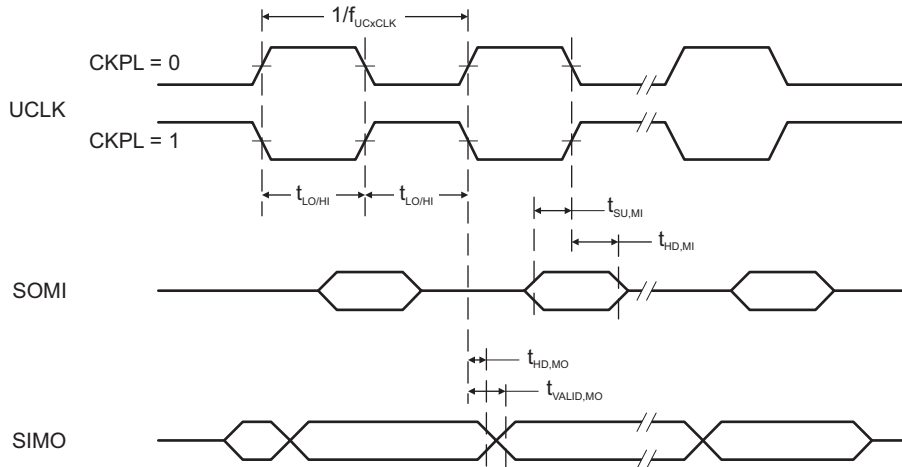
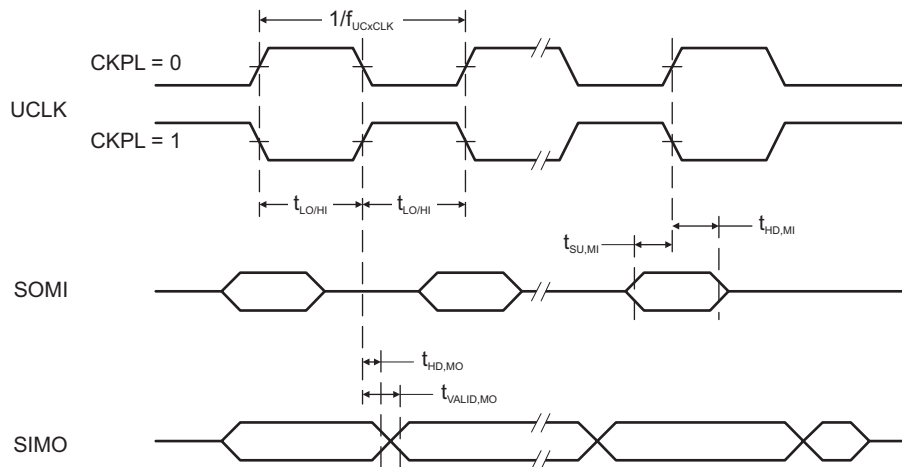

Figure 5-11. SPI Master Mode, CKPH = 0
Figure 5-12. SPI Master Mode, CKPH = 1
(see Figure 5-11 and)
(2) Specifies the time to drive the next valid data to the SIMO output after the output changing UCLK clock edge. See the timing diagrams in Figure 5-11 and Figure 5-12.
(3) Specifies how long data on the SIMO output is valid after the output changing UCLK clock edge. Negative values indicate that the data on the SIMO output can become invalid before the output changing clock edge observed on UCLK. See the timing diagrams in Figure 5-11 and Figure 5-12.